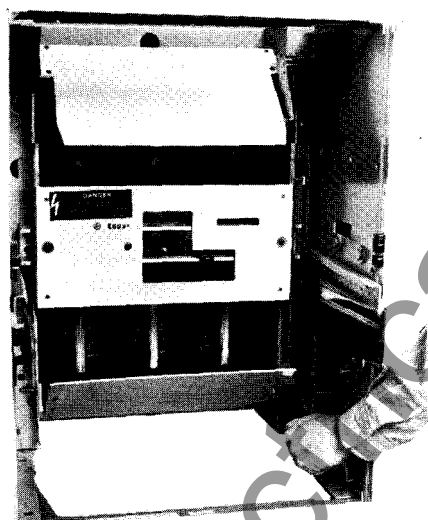

Figure 10. Shutter actuating lever pushed down to partly open the shutters.
2. Push down on the operating lever to check that the upper and lower movable barriers operate freely, as shown in Figures 10 and 11. When the lever is released, the barriers should return to their closed positions.